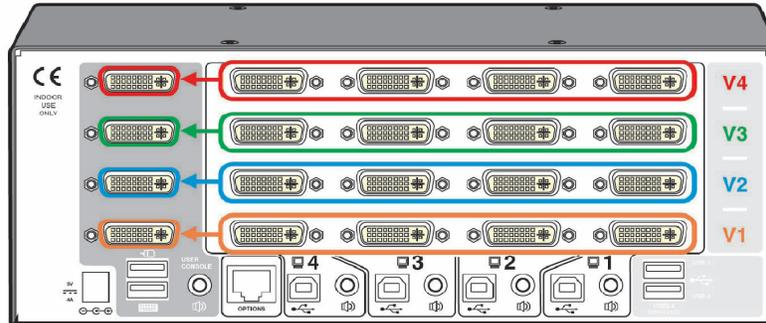

FIGURE 3-10. VERTICALLY STACKED CONNECTORS LINKED TO THE SAME CHANNELS
**NOTE:** On the rear panel of the unit, connectors belonging to the same channel are stacked vertically. The connectors at each horizontal level (V1 to V4) will be switched through to the user console DVI-I connector which is at the same level. See Figure 3-10.